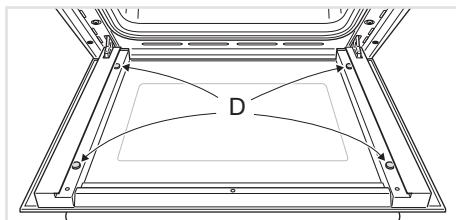

Fig. 5.38
- Check that the four rubber pads are in place ("D" in fig. 5.38).